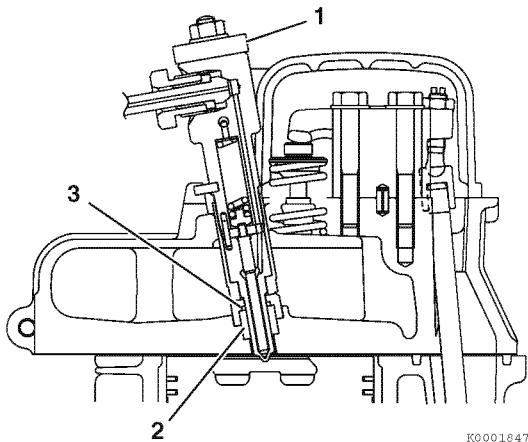

Figure 7-28
4. Remove the fuel injector retainer plate (1, **Figure 7-28**).
6. Remove the injector nozzle gasket (2, **Figure 7-28**) and spacer (3, **Figure 7-28**). If the injector nozzle gasket and spacer remain in the cylinder head, remove them from the cylinder head by threading an 8 mm or 9 mm bolt, at least 200 mm long, into the gasket. Use the bolt as a puller. Discard the gasket.